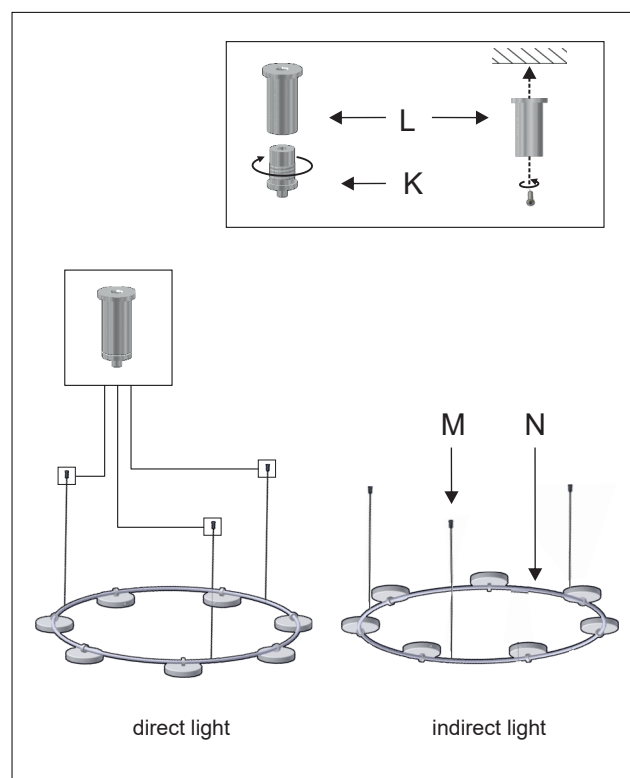

Figure 3
- 3 - Unscrew the three grip supports (K) from their associated tensors (L) and screw them into the ceiling. Installer must use supporting means that are suitable for the type of ceiling the unit will be installed on. Fasteners used in the canopy must be able to hold the weight indicated for the unit at the top of this document. We suggest that the position of the cable grippers are previously marked taking into account the position of the steel cables (M) and the size of the rim (N). The orientation of the lampshades (direct or indirect light) does not affect the mounting system. Figure 3